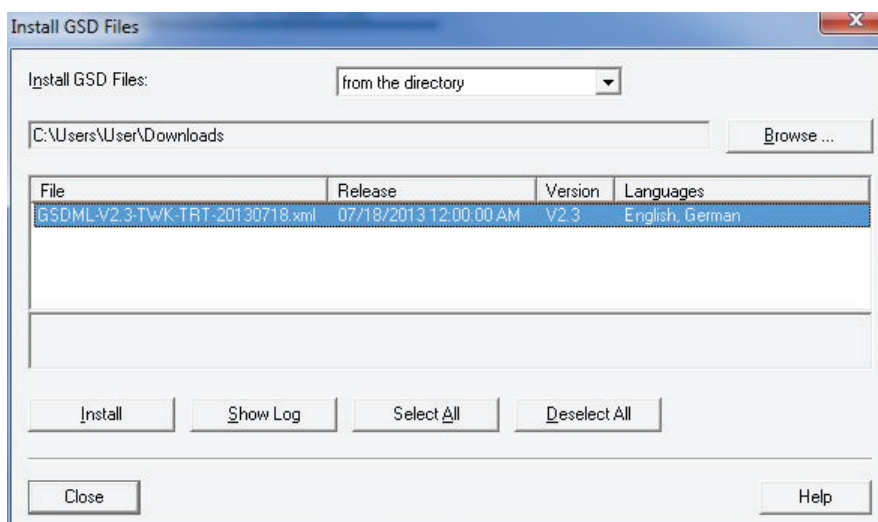

Fig.: 4
- Set "from the directory" and "browse" to your GSD file. Click on "Install" (see Figure 4).